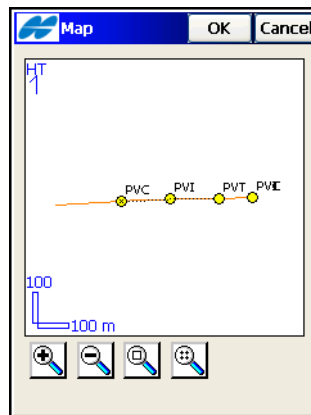

Figure 7-18. Vertical Alignment Map
- Double-tap in the plot area to open the greater Map for the vertical alignment. The **Map** screen displays. For vertical curves, the map displays the *PVC* point where the vertical curve begins, the *PVI* point of intersection of two tangents, and the *PVT* point where the curve ends (Figure 7-18).